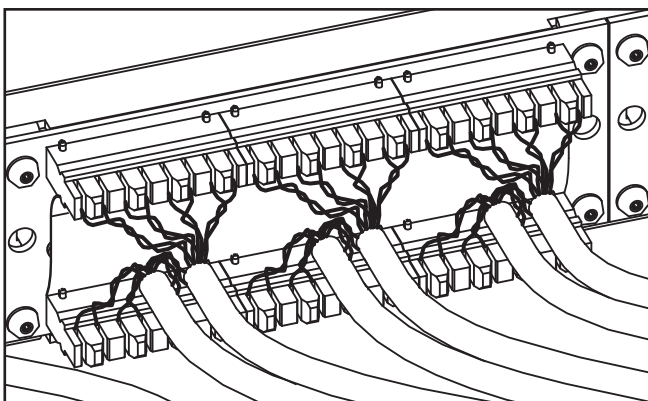

Figure 3
Step 4: Position the cable at the appropriate 110 module and insert the cable into the color coded slots of the 110 connectors. The white conductor of each pair shall be inserted right of the color code and the solid colored conductor to the left of the color code. Be sure to follow the appropriate color code associated with desired wiring pattern (T568B or T568A). See Figures 3 and 4.